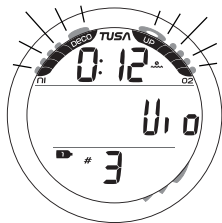

Fig. 78 - VGM MAIN
**VGM Main (on surface)** information includes (Fig. 78) -